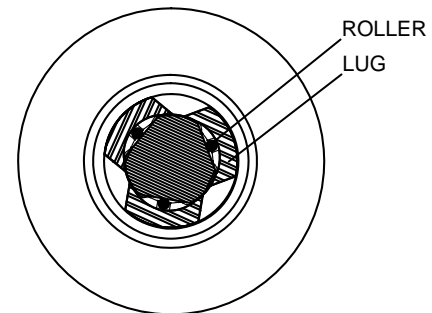

Fig. 3
Note: Ensure that the lugs are aligned over the rollers as in Fig. 3.
4. Slide chuck body away from flange about 1/2" until outer synchronizer ring comes loose; remove the ring (Fig. 3). **DO NOT REMOVE CHUCK BODY YET** – internal parts will fall.